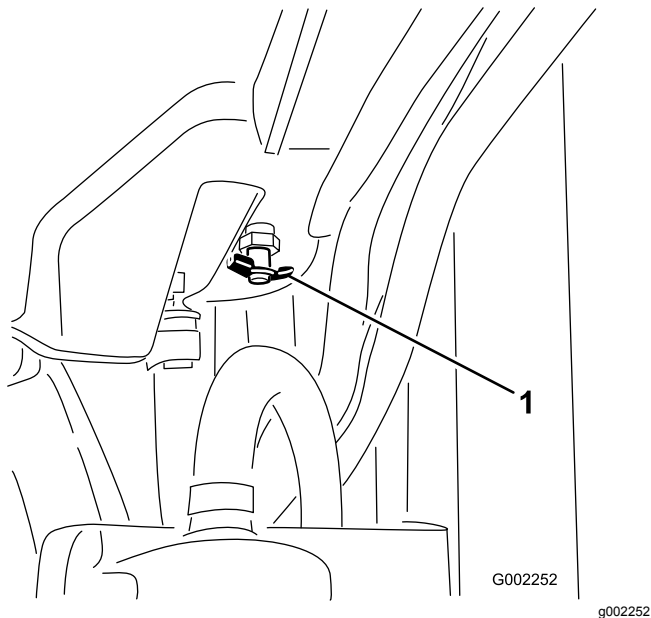

Figure 89
4. Open the drain valve and drain the coolant into the pan (Figure 89).
5. Close the drain valve (Figure 89).